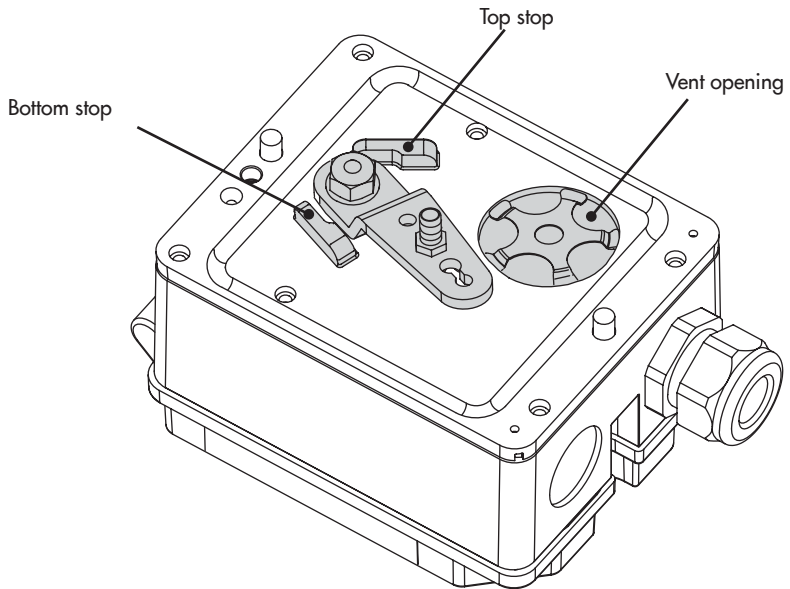

Fig. 5: Mechanical stops and vent opening
→ Do not mount the positioner with the vent opening (Fig. 5) facing upward.
1. Move the lever to the bottom mechanical stop (see Fig. 5) and hold it in place. Undo and remove the nut using a wrench (width across flats SW 10).